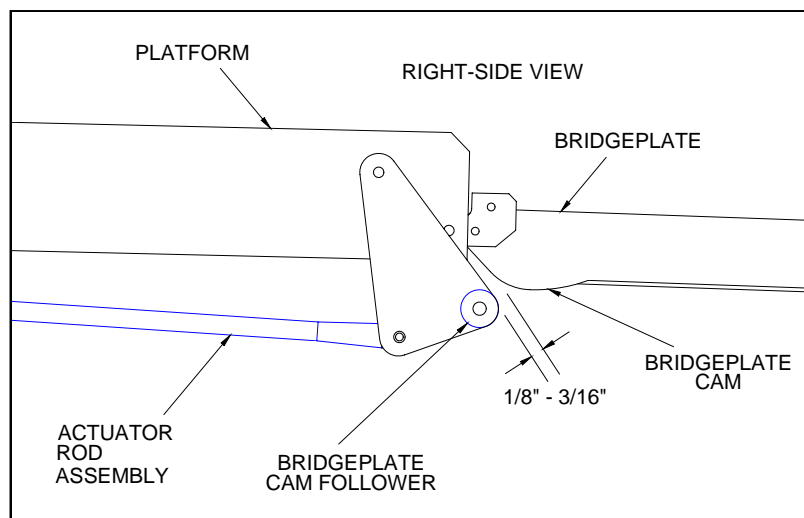

FIGURE 2-3: BRIDGEPLATE ADJUSTMENT
- h. Refer to **Figure 2-3**. Turn left-side rod-end to achieve a clearance of 1/8" - 3/16" between bridgeplate cam and bridgeplate cam follower when shoulder bolt and spacer are installed. Tighten shoulder bolt, then tighten rod-end jam-nut.